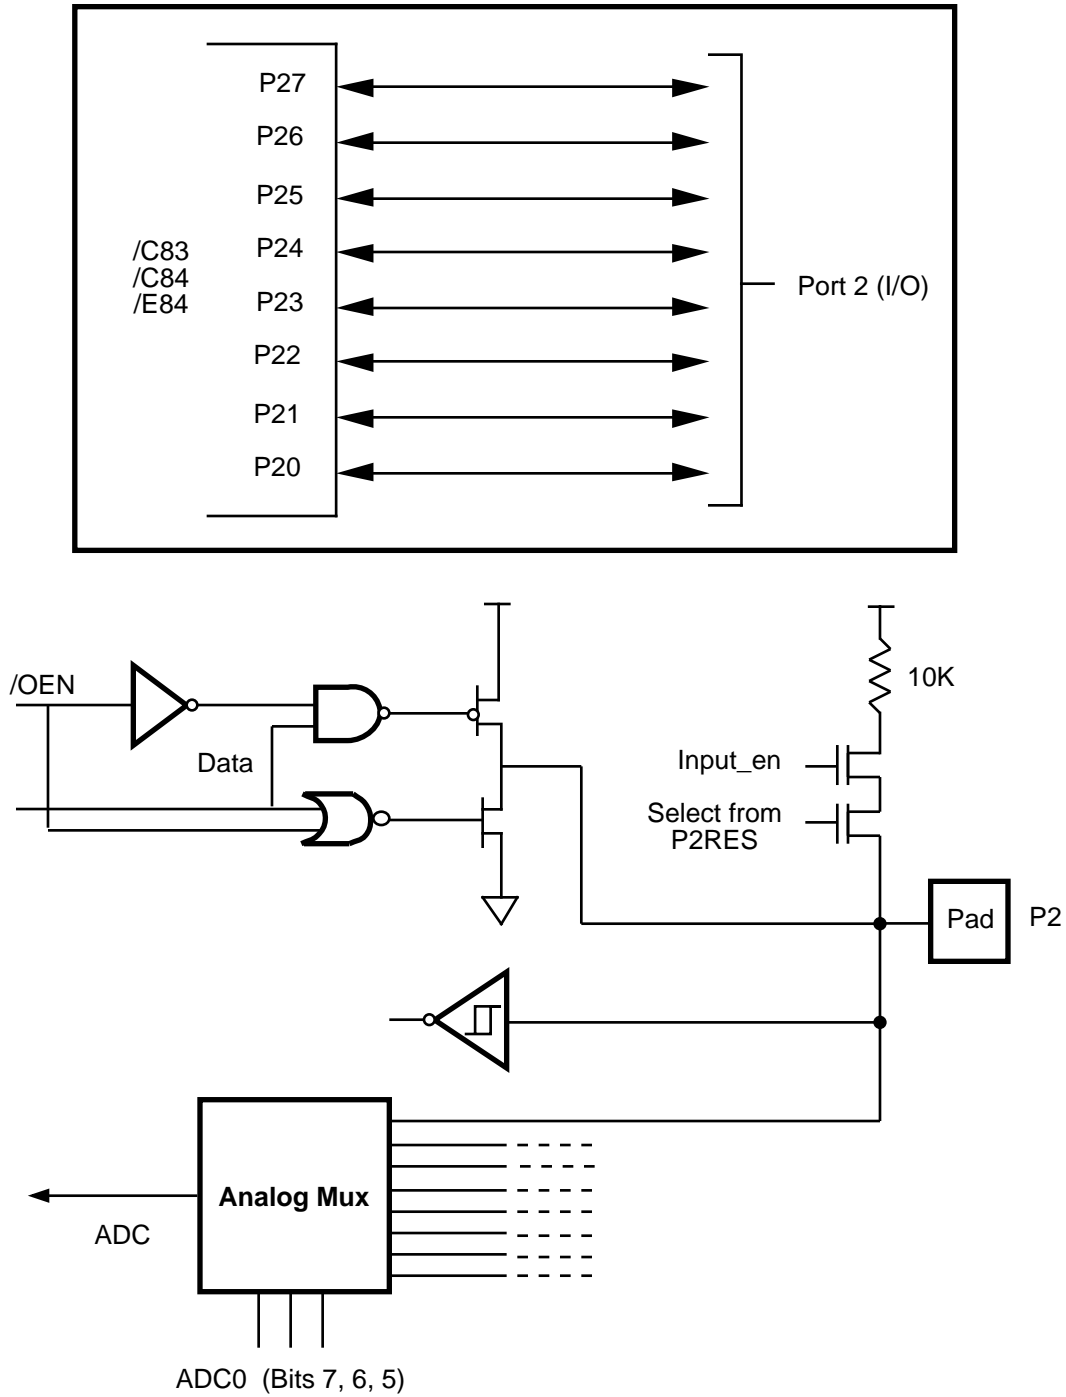

Figure 11. Port 2 Configuration
**Port 2 (P27-P20)** Port 2 is an 8-bit, bi-directional, CMOS-compatible I/O port and an 8-channel muxed input to the 8-bit ADC. When configured as a digital input, by programming the Port2 Mode register, the Port 2 register can be evaluated to read digital data applied to Port 2, or the ADC result register can be read to evaluate the analog signals applied to Port 2 after configuring the ADC Control Registers. The direction of each of the eight Port 2 I/O lines can be configured individually (Figure 11).
**Port 3 (P37-P30).** Port 3 is a 6-bit, CMOS-compatible port, with three fixed inputs (P33-P31) and three fixed outputs (P34-P36), configured under software control for Input/Output, Counter/Timers, interrupt, and port handshake. P31, P32, and P33 are standard CMOS inputs (no Auto Latches). Pins P34, P35, and P36 are push-pull output lines (Figure 11). Low EMI output buffers can be globally programmed by the software.